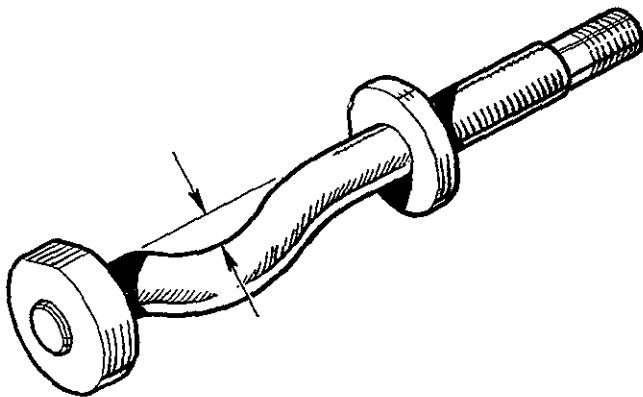

Fig. G.7
- (28) Refitting is a reversal of the removing procedure given in Section K.2. ●
- (29) When fitting a replacement drive shaft assembly (of the type fitted with a rubber boot on the sliding joint) to the left-hand side of an early model, it will also be necessary to fit a modified lower arm inner pivot pin to ensure sufficient clearance for the rubber boot. Reference should be made to Fig. G.7 for the dimension of the modified pivot pin.